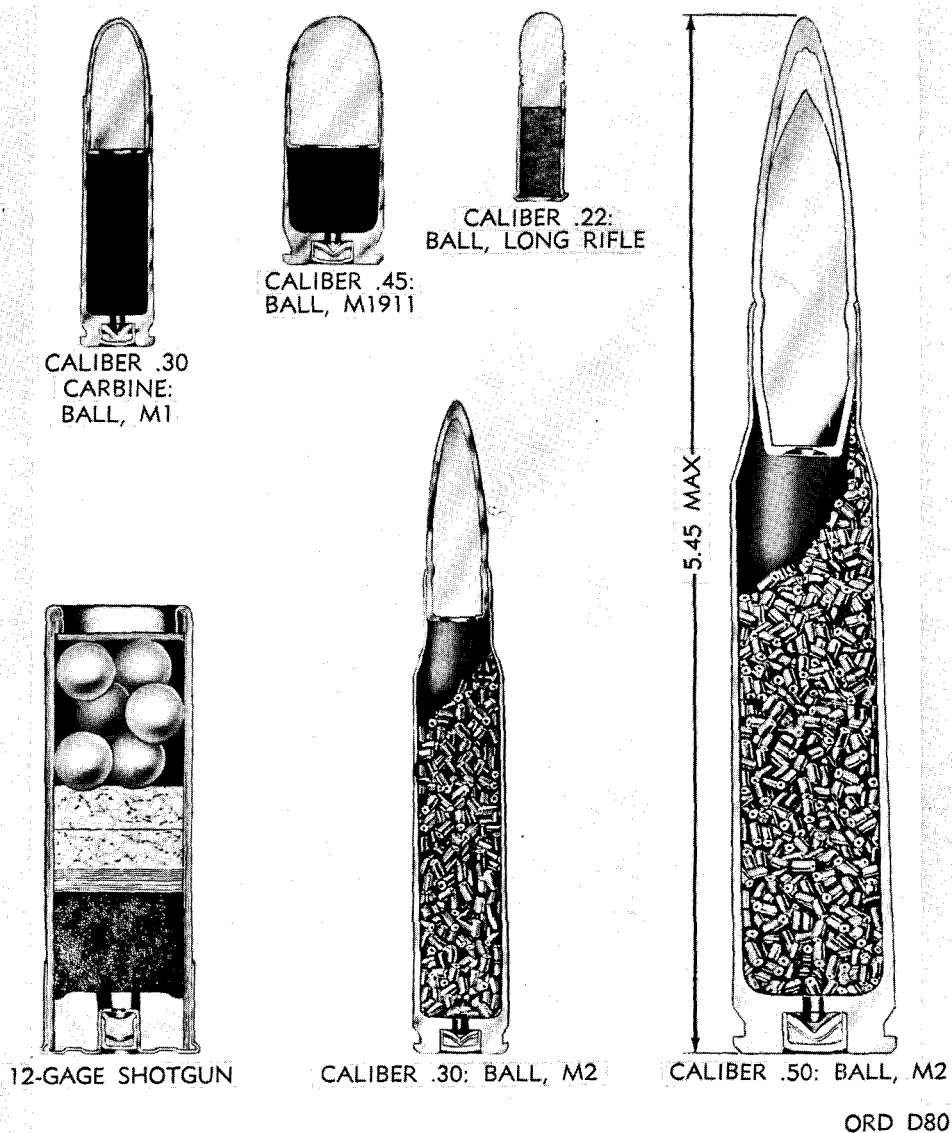

Figure 12. Types of cartridges—sectioned.
a. In most types of small-arms ammunition, a cartridge consists of a cartridge case, primer, propellant, and bullet. A shotgun cartridge differs in that it contains shot, pellets, or a single slug. Construction of a typical cartridge and its components is illustrated in figure 1. Types of cartridges are shown externally in figures 3, 4, 5, and 6 and sectioned in figure 12.
- (4) For rimfire, rimmed, and semirimmed centerfire cartridges, such as caliber .22, caliber .38, and shotgun cartridges, the extractor rim of the case stops the forward motion of the cartridge. Therefore, headspace is equal to the distance from the rear face of the chamber to the face of the closed bolt. This is very nearly equal to the thickness of the extractor rim.
*f. Shotgun Cartridge Cases.* The shotgun cartridge case consists of a brass or steel head and a paper case or shell body, or the case may be made entirely of brass or aluminum. The head is reinforced by a base of compressed paper in which the primer pocket is formed (fig. 12). Some paper body cartridges have a steel reinforcement called the lining, under the metal head. The paper body cartridge is waterproofed. The head is attached to the cartridge body by crimping.